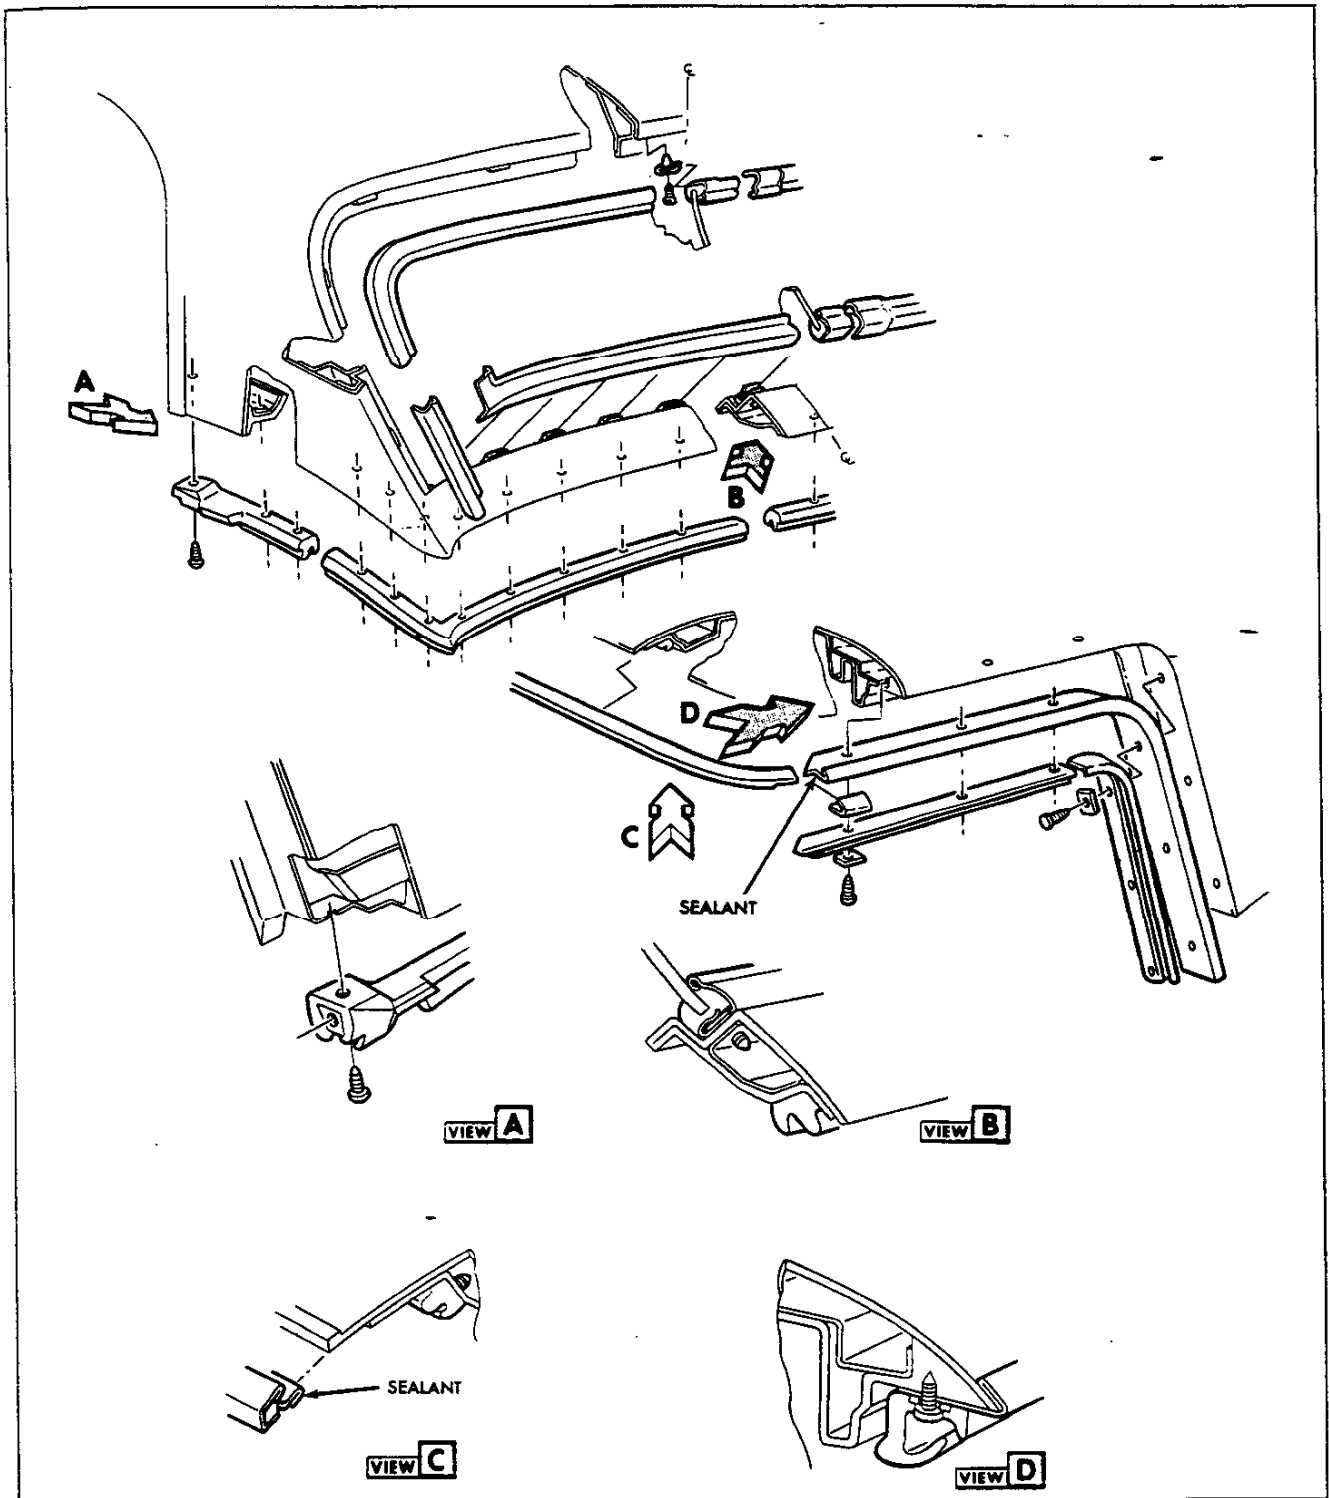

Fig. 60—Molding and Weatherstrip (Convertible Hardtop)
Refer to Figures 60 and 61 for parts identification.
As shown in Figure 60, door window weatherstrip and drip molding are retained by screws to top assembly. Side outer and rear outer weatherstrip are mounted to body at ends-by screw and around periphery by special plastic retaining clips. Weatherstrip is replaced by removing two (2) screws and carefully pulling outward at clip location.